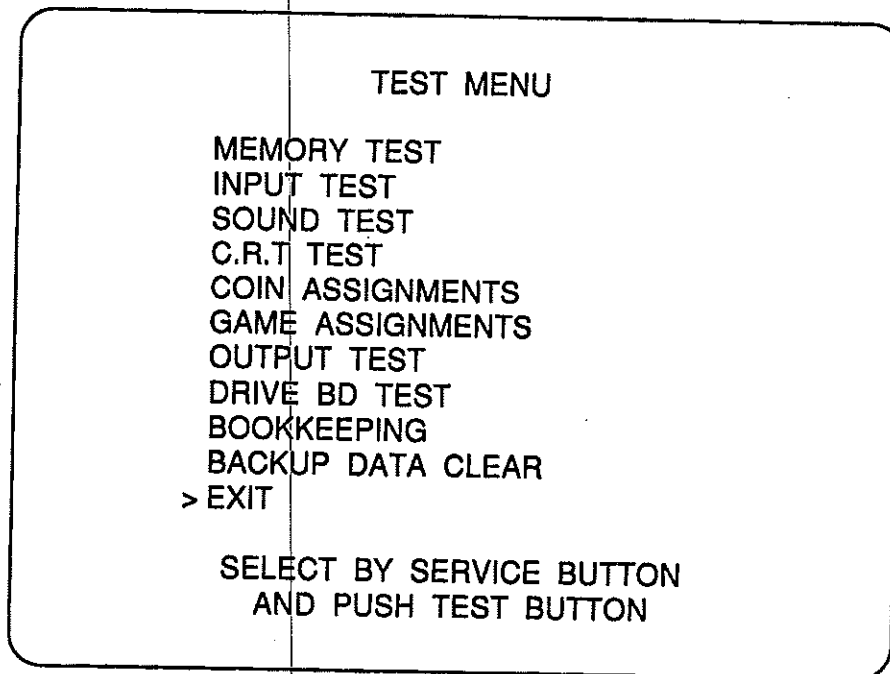

FIG. 8.2 TEST MENU
- Press the **TEST BUTTON** to cause the following Test Menu to be displayed on the monitor. (FIG. 8.2)
- Press the **SERVICE BUTTON** or **VIEW CHANGE BUTTON (VR)** until the pointer ">" is moved to the desired item to make a selection.